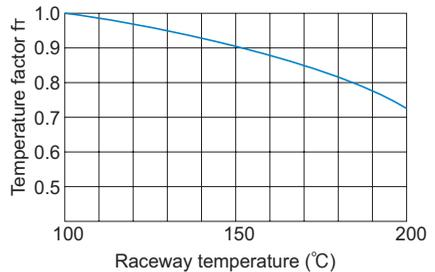

Fig.3 Temperature Factor ( $f_T$ )
- $f_T$  : Temperature factor (see Fig.3 on A-557)
If the temperature of the environment surrounding the operating model ST exceeds 100°C, take into account the adverse effect of the high temperature and multiply the basic load ratings by the temperature factor indicated in Fig.3.